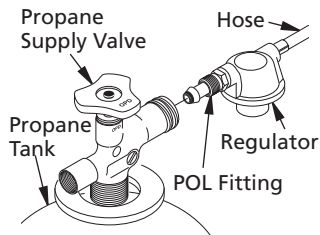

Figure 6 - Connecting Heater to Propane Tank
2. Wrench tighten the fuel connector nut into the propane tank valve (See Figure 6). Turn fuel connector nut counterclockwise to tighten. Threads are left-handed.